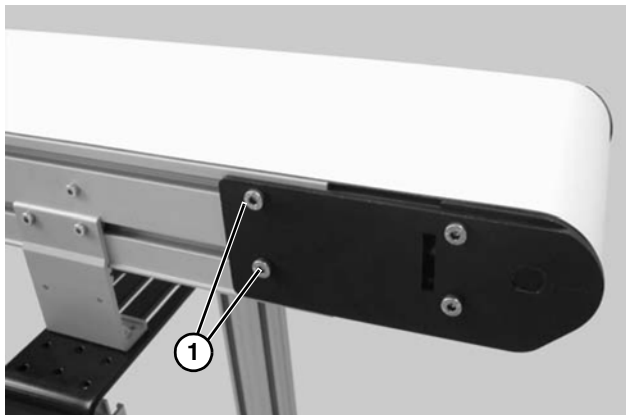

Figure 39
5. Re-tighten the head plate fastening screws (**Figure 39, item 1**) with a 5 mm hex-key wrench to 146 in-lb (16.5 Nm).